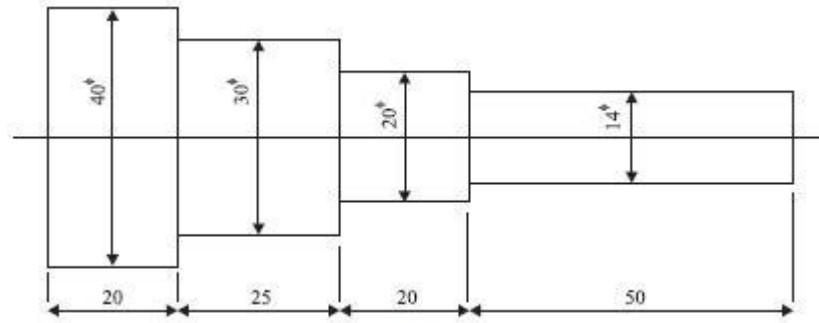

Fig. 5.7
- 7 Calculate the net weight and gross weight for the component shown in Fig. 5.7. Density of material used is 7.86 gm/cc . Also calculate: BT3 (16)